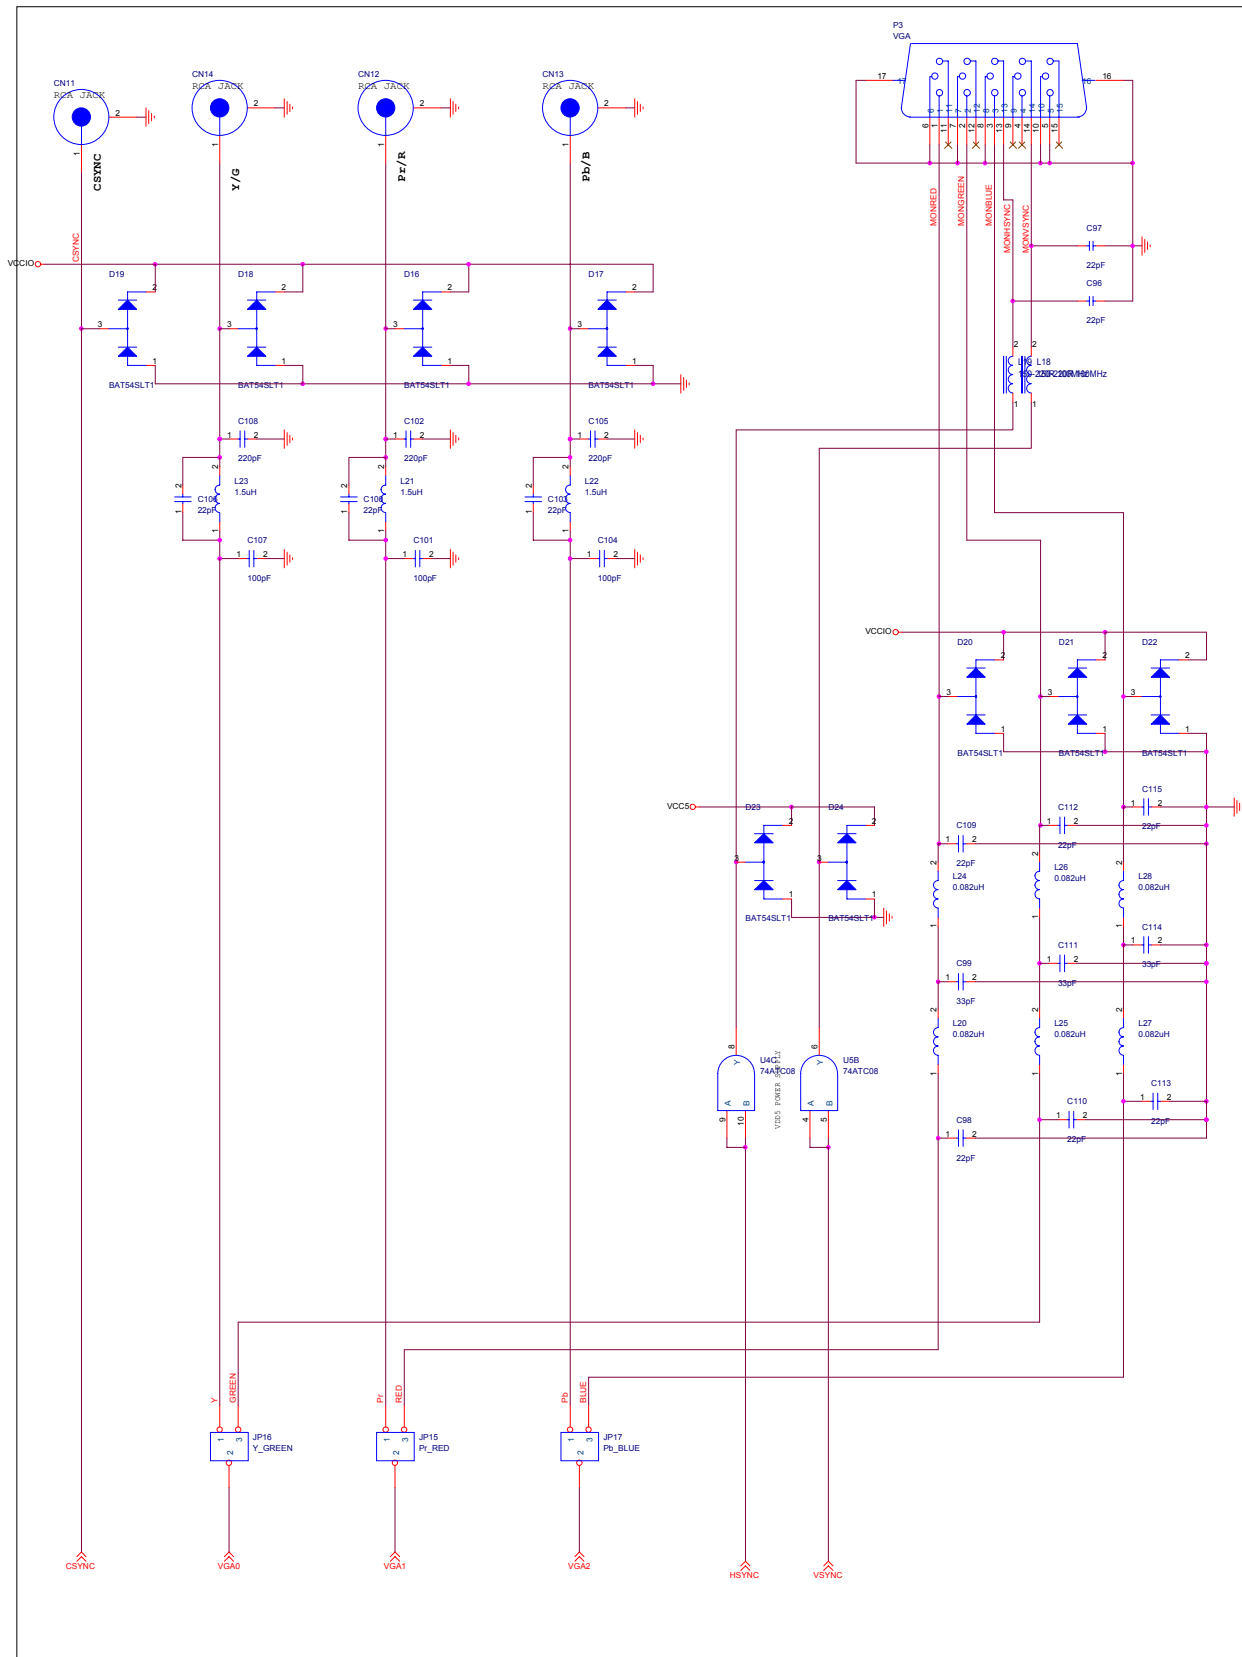

Figure 8:CH7025 BGA reference schematic
**Figure 8** is the reference schematic of CH7025 BGA. This schematic is provided here for design reference only. We encourage those who will engage in an application design with CH7025 to contact Chronitel Applications group. **Table 3** provides the BOM list for **Figure 8** reference schematic.